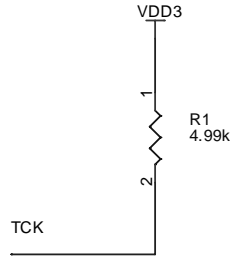

Figure 16. Connection for the JTAG TCK Pin
Connect a 4.99 k Ω pull-up resistor to the JTAG **TCK** pin (19), as shown in **Figure 16**.